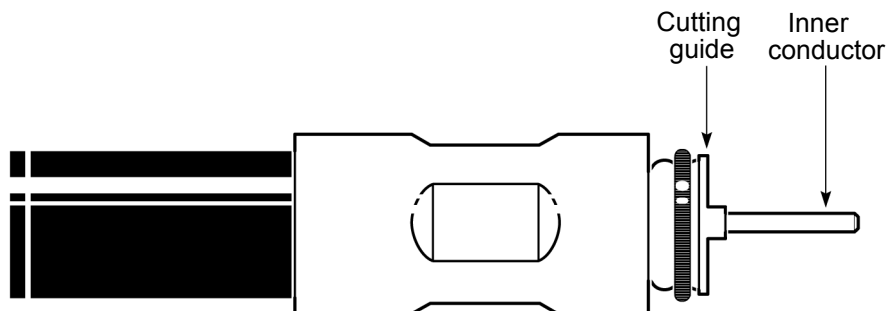

Figure 76 – Adding the inner conductor cutting guide
1. Add the inner conductor cutting guide, as shown in *Figure 76*.